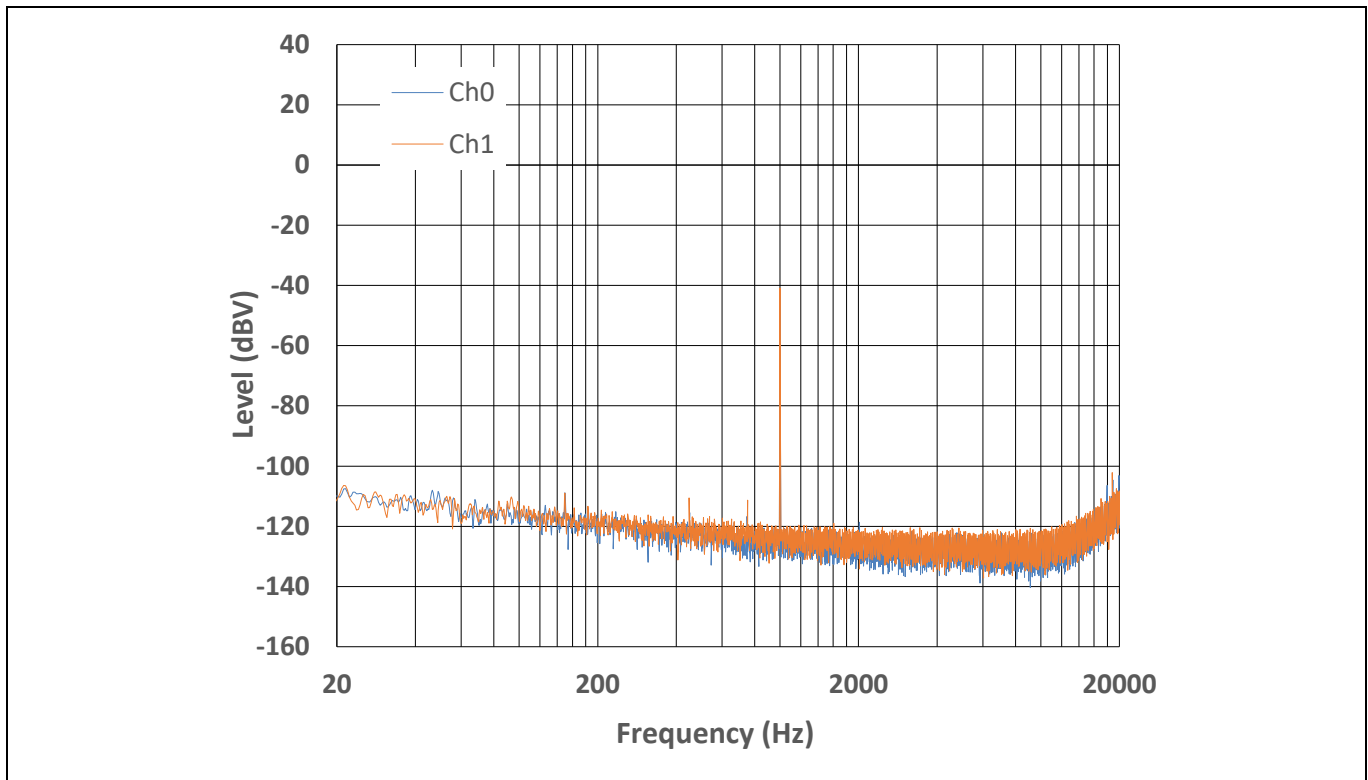

Figure 10 Output FFT spectrum
The Figure 10 shows the output spectrum that has been obtained by applying 1 mV_{rms} (1 kHz) input signal to both channels. This gives an output signal of -40 dBV. The noise floor for these settings is shown in the Figure 10. The integrated, A-weighted noise floor number for both channels is 70 µV_{rms} (AW).